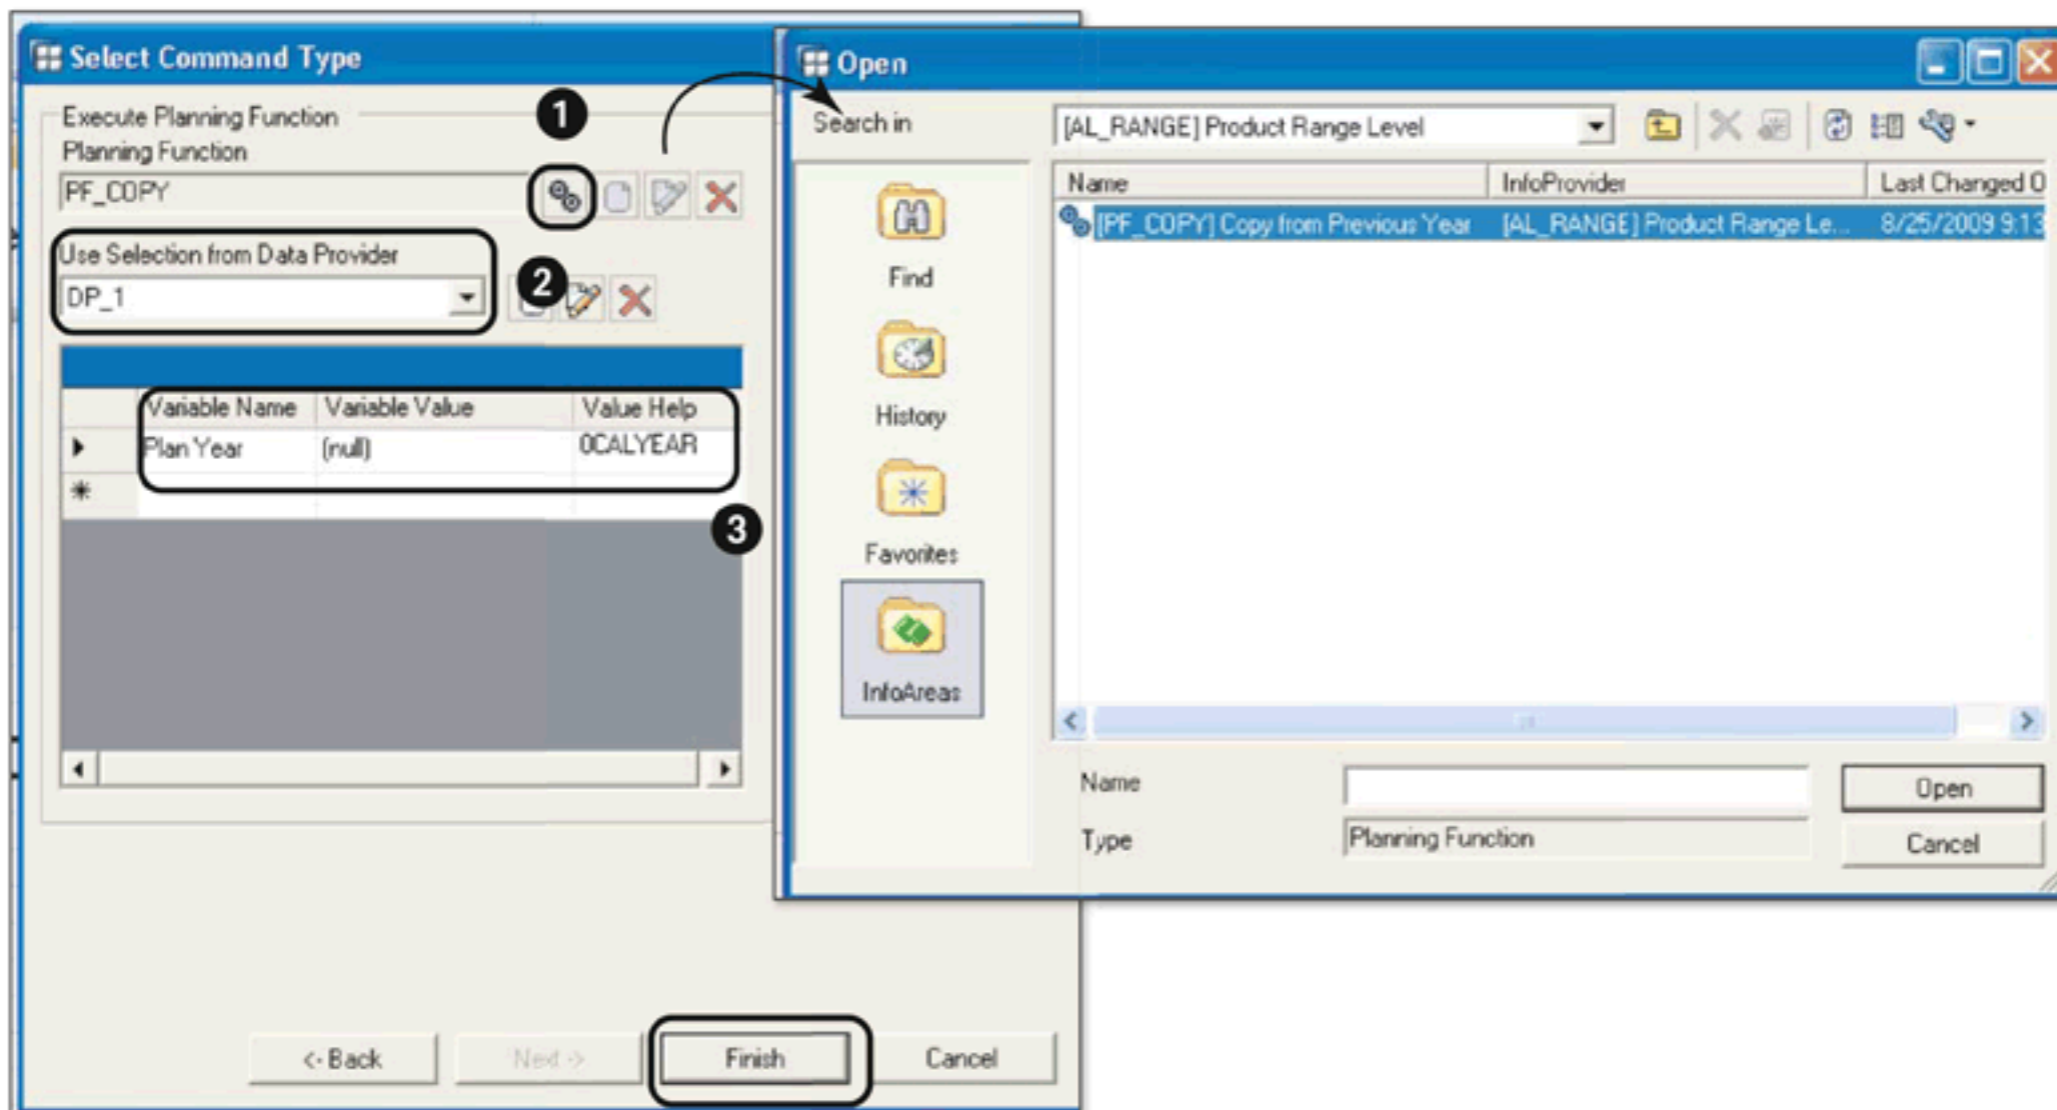

Figure 12.68 Select Planning Function
On the next screen, first select the planning function and the data provider on which the planning function has to be executed. Select the PLANNING FUNCTION that needs to be assigned to the button, as shown in ❶ of Figure 12.68. Also select the data provider from the dropdown list on which the selected planning function should be executed; alternatively, you can create a new one if needed (❷). If the planning function includes variables, the list of those variables is displayed after you select the planning function (❸).